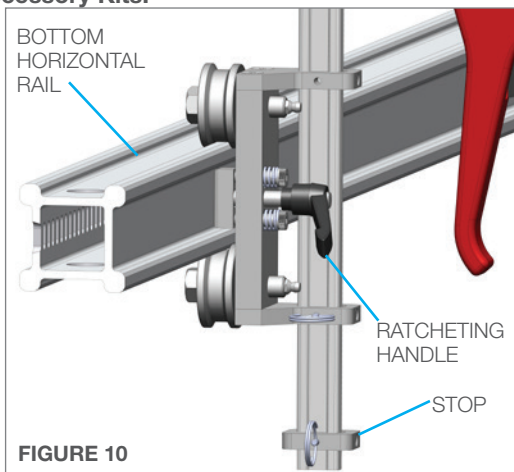

FIGURE 10
- Slide the bottom Horizontal Rail Assembly into the bottom Support Brackets. Slot orientation does not matter on the Bottom Rail. Tighten the Ratcheting Handle, securing the rail to the Support Brackets. The Bottom Rail can replace the Top if the slots become worn. **(Figure 10)**